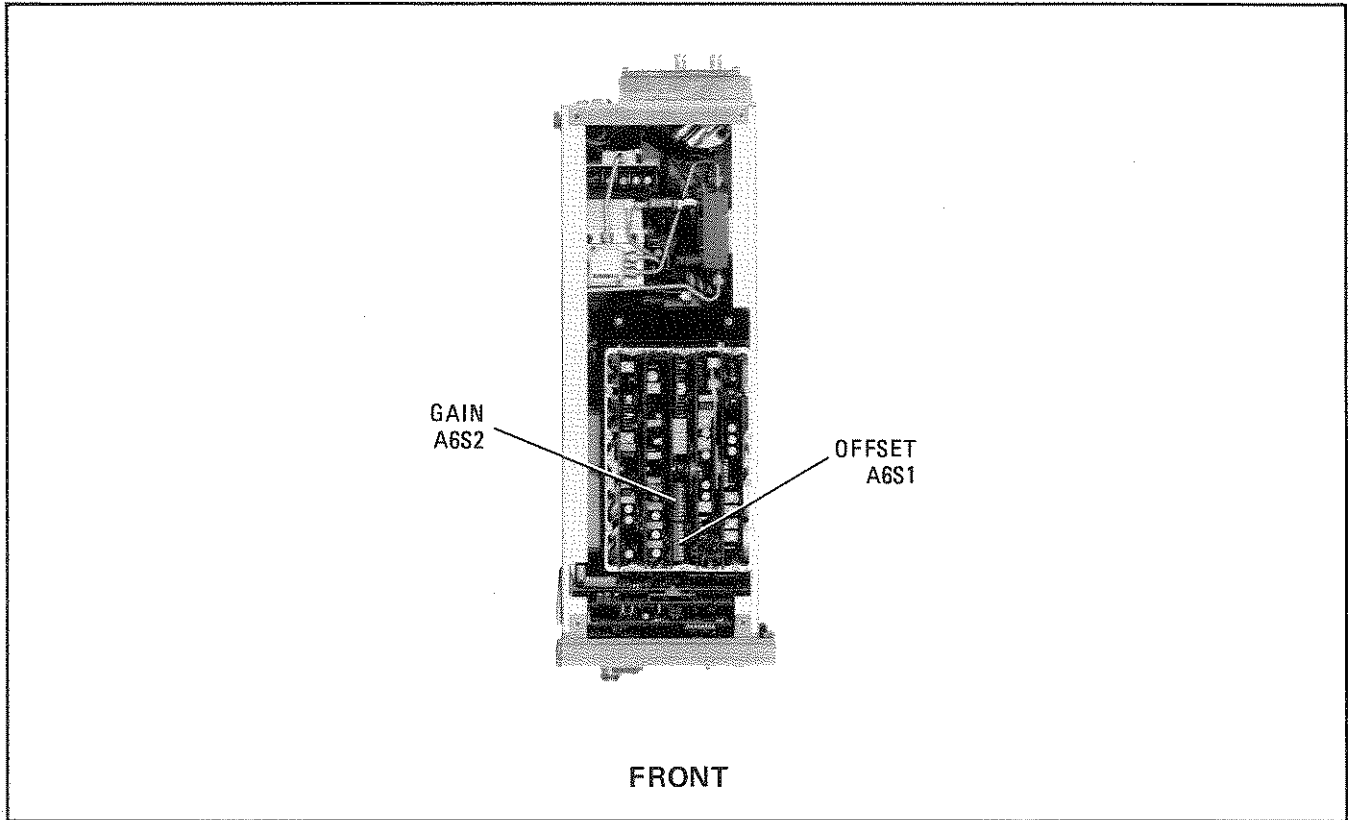
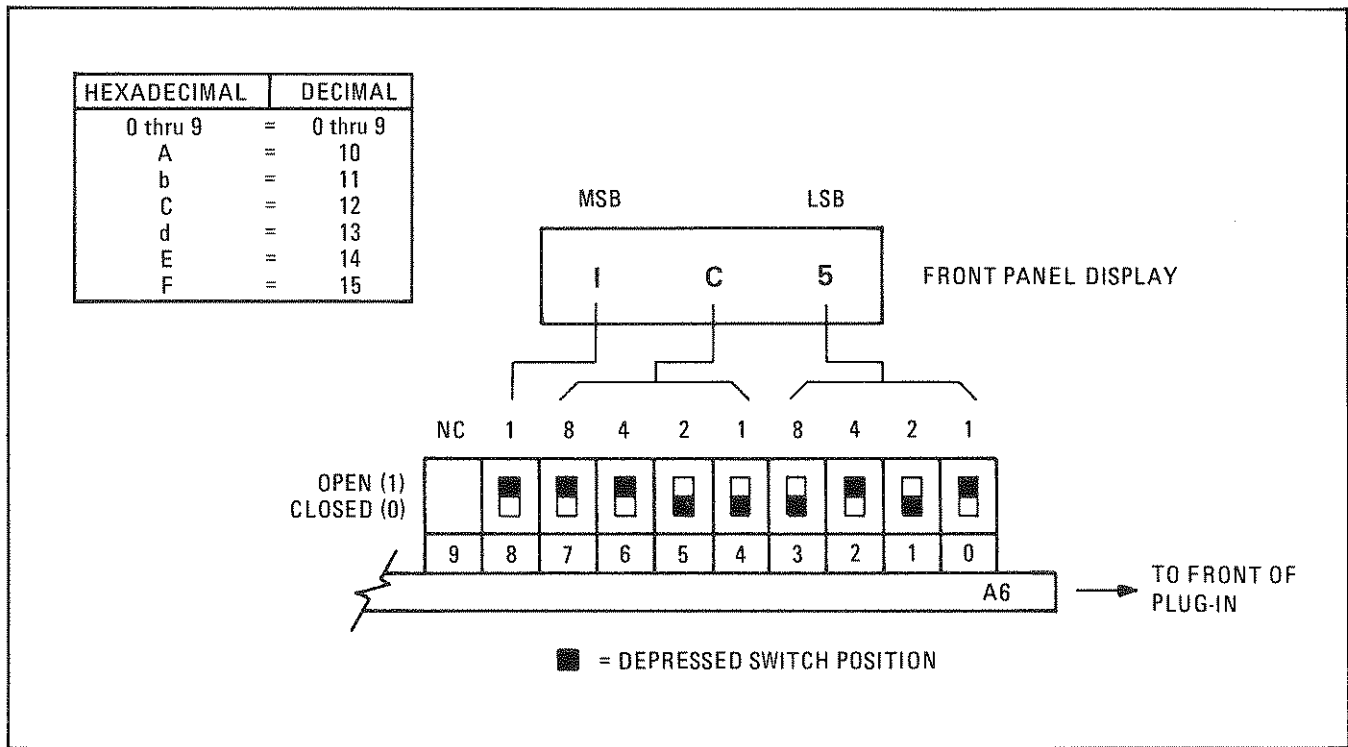

Figure 5-12. Frequency Calibration Adjustments Location
Figure 5-13. A6S1 and A6S2 Frequency Calibration Switch Configuration
16. Set switch A6S1 (Figure 5-12) for the value displayed in **POWER** window. Refer to the diagram in Figure 5-13.
22. Set A6S2 (Figure 5-12) for the reading displayed in the **POWER** window.